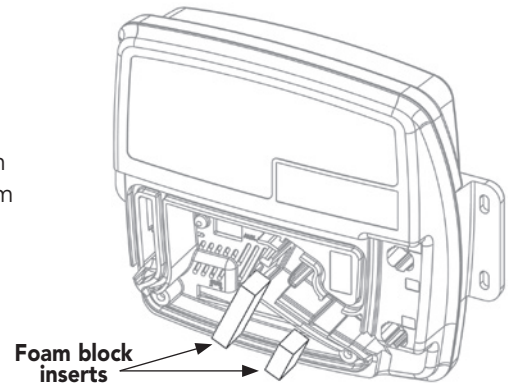

**Figure 6**
1. Using a Phillips-head screwdriver, remove the two cover screws from the front of the Audio@Home (**Figure 6**), and remove the cover from the unit.